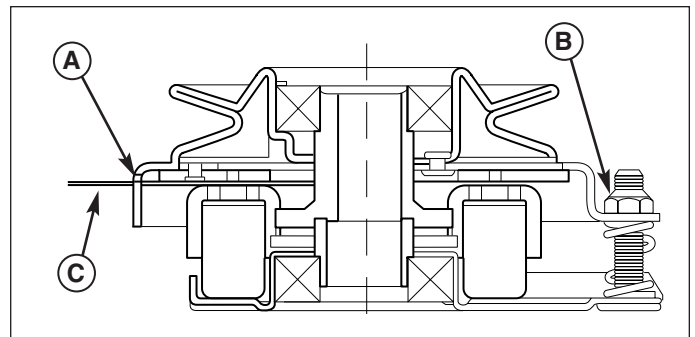

Figure 35. Adjust PTO Clutch
3. Insert a .012"-.015" (2,5-4mm) feeler gauge (C) through each window, positioning the gauge between the rotor face and the armature face as shown in Figure 35.